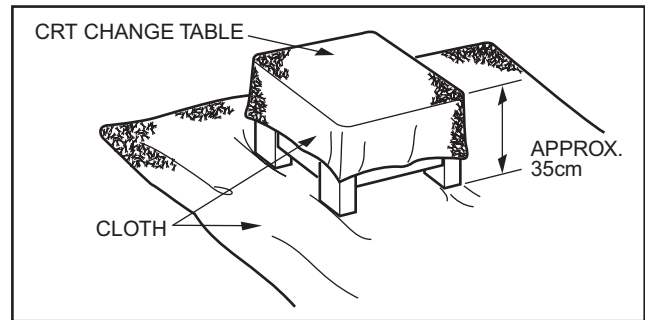

Fig.3
- (1) Putting the CRT change table on soft cloth, the CRT change table should also be covered with such soft cloth (shown in Fig. 3).
- (2) While keeping the surface of CRT down, mount the TV set on the CRT change table balanced will as shown in Fig. 3.